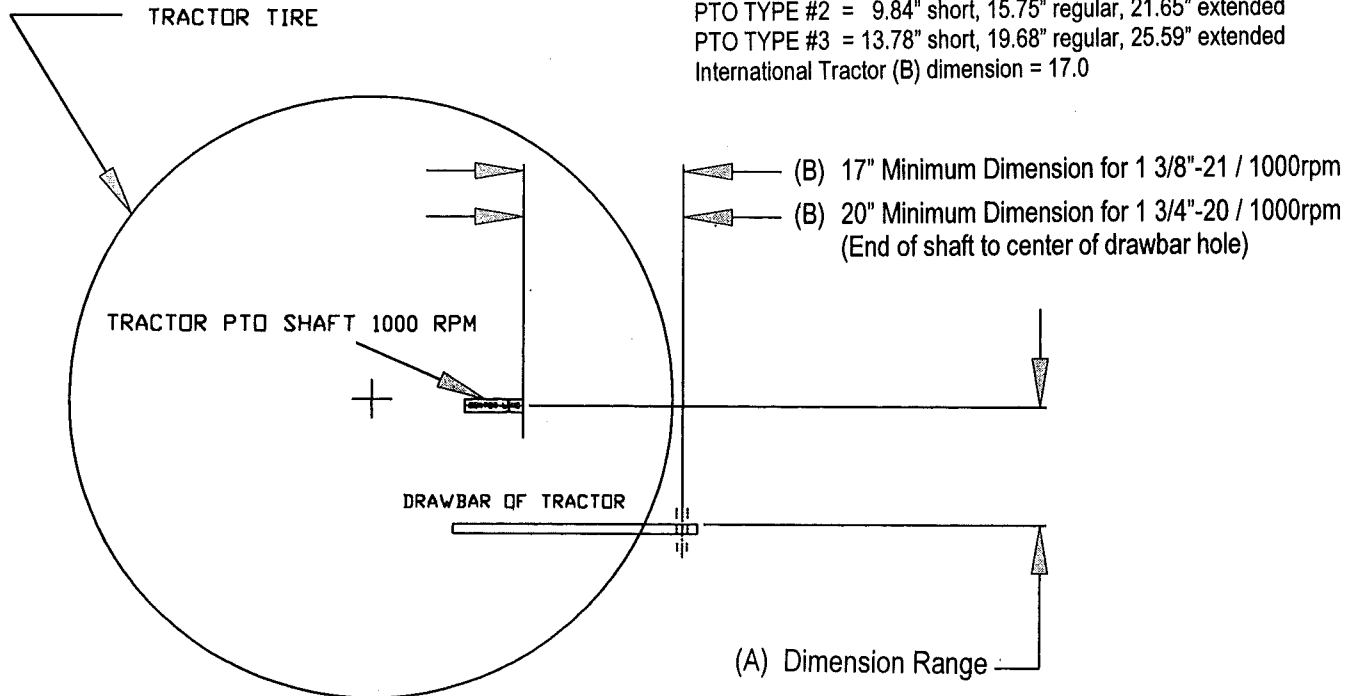

Figure 9
1. To get the minimum amount of vibration and prolong the life of the bearings in the PTO shaft, adjust the tractor drawbar so that the distance from the end of the tractor PTO shaft to the center of the hole in the drawbar is 17 inches for the 1 $\frac{3}{4}$ " 21 spline PTO shaft and 20 inches for the 1 $\frac{3}{4}$ " 20 spline PTO shaft. See Figure 9 .